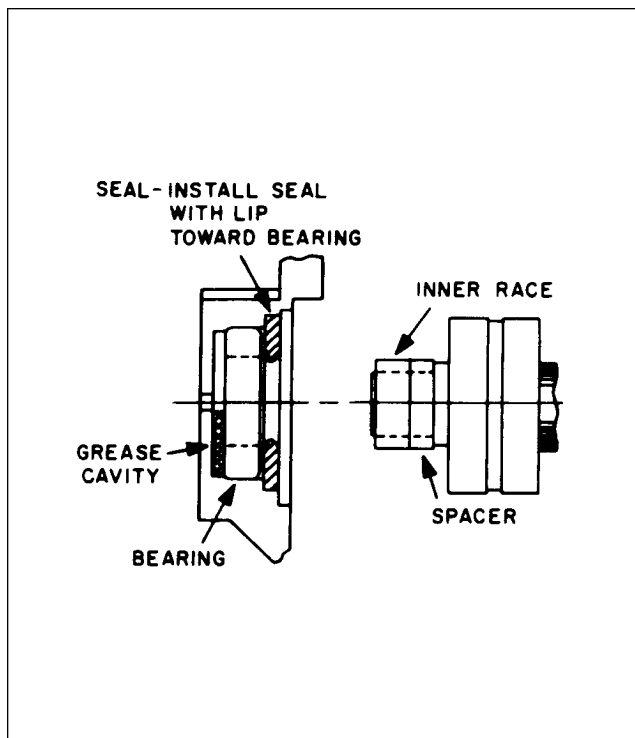

Figure 11-33. Slip Ring End Bearing Assembly
- e. Install the slip ring end bearing and oil seal. Make sure the lip of the oil seal is toward the bearing. Stake the seal in place. Correct assembly of bearing, seal, inner race and spacer as shown in Figure 11-33.